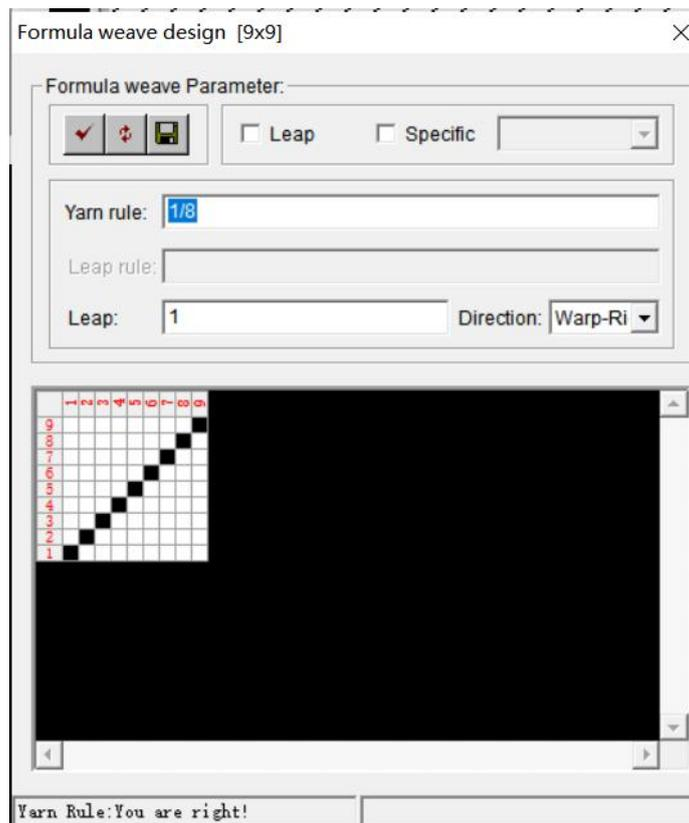

Figure 5-36A Fixed leap settings
(4) The setting is shown in Figure 5-36A, and the organization effect is shown in Figure 5-36B.